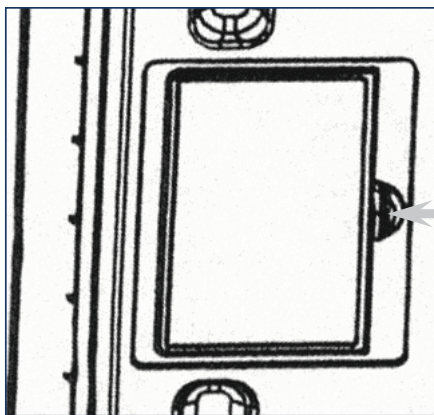

Figure No. 23
2. To install or replace the batteries, first remove the battery cover by pushing in on the tab and lifting it up. Refer to Figure No. 23.